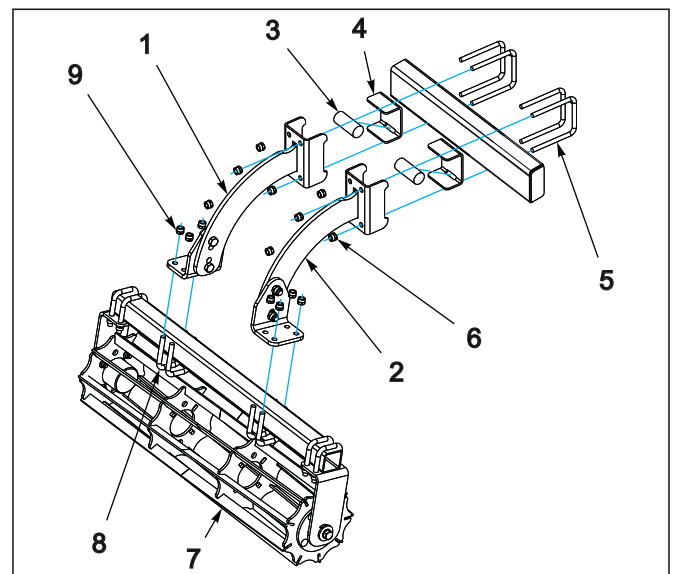
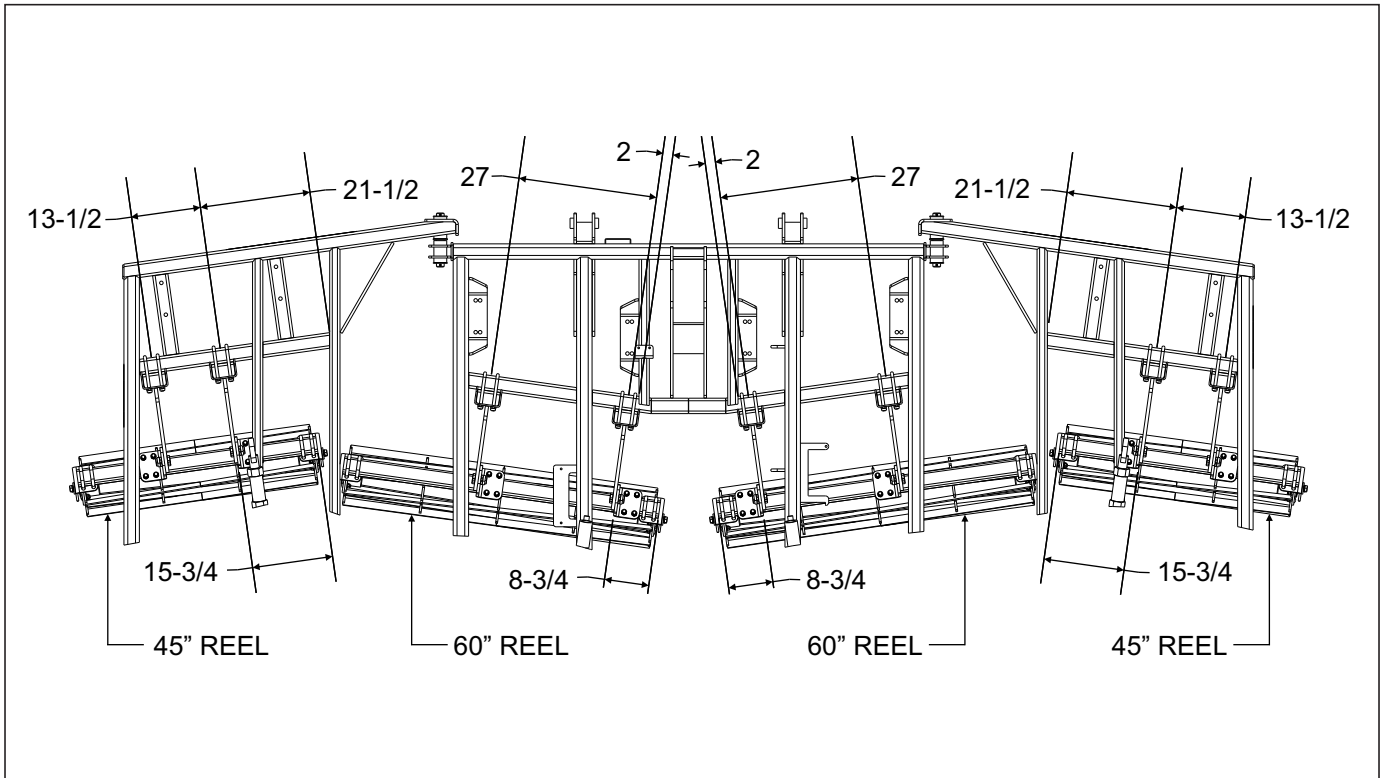

Figure 3-3: Disc Gang Reel Arm Assembly
Figure 3-4: Disc Gang Reel Installation - 19'
6. Optional Disc Gang Reel Arm Assembly – **See Figure 3-3 Refer to the Disc Gang Reel Layout drawings for proper placement See Figures 3-4 through 3-10.** Attach 203072 reel arm assembly RH (item 2) or 203073 reel arm assembly LH (item 1) to frame. Position torsion spring (item 3) in slot of spring retainer (item 4), secure with 181363 5/8-11X5-11/16X6-3/4 u-bolts (item 5) and 5/8-11 slfkg nuts (item 6) Attach reel assembly (item 7) to 203072 reel arm assembly RH (item 2) and 203073 reel arm assembly LH (item 1). Secure with 5/8-11X3-11/16X4-5/8 u-bolts (item 8) and 5/8-11 slfkg nuts (item 9). When all components are in positions shown **See Figures 3-4 through 3-10**, all bolts may be tightened to specs.